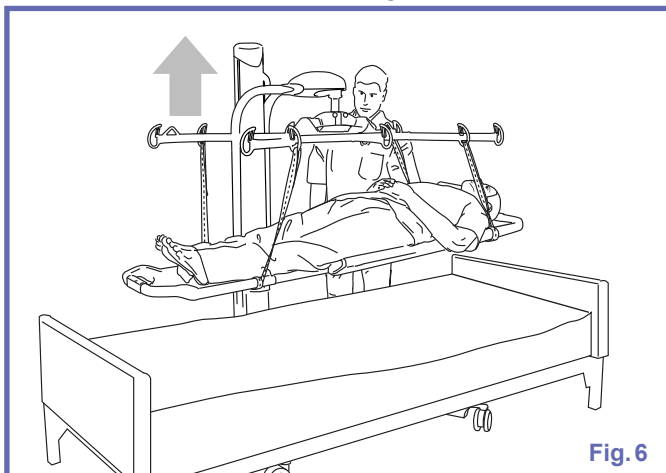

Fig. 6
- 6) Raise the patient sufficiently to clear the bed/hospital stretcher (See Fig. 6).